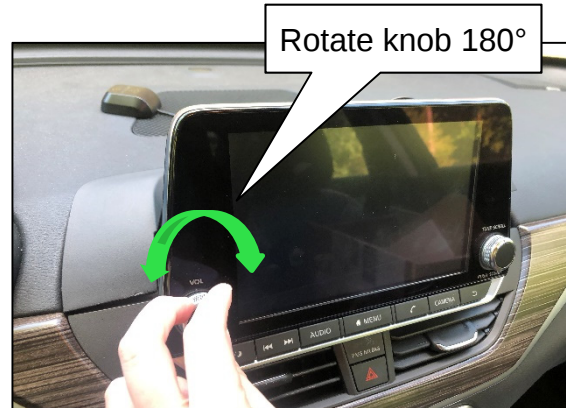

Figure 2
2. Rotate the volume knob clockwise and counterclockwise approximately 180° as rapidly as possible for 30 seconds (Figure 2).